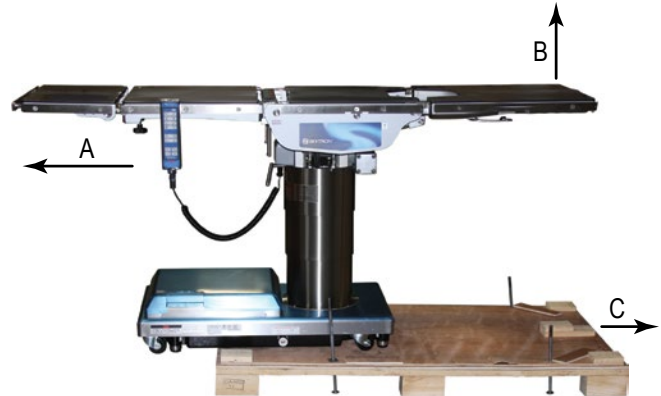

Figure 11. Remove Table from Shipping Crate Base
23. Slide the head end of the table off the shipping crate base in the "A" direction. Position it so that just the edge of the table remains on the crate base (Figure 11).